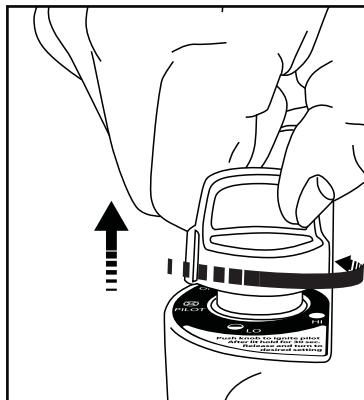

Figure 5: "Release knob."
- After pilot lights, hold down for 30 -60 seconds and then release knob. Knob should return to fully extended position; To operate heater slightly depress knob and gently turn to lock in the "HI" position to light burner tile. Leave on "HI" position until burner tile turns bright orange. Figure 5